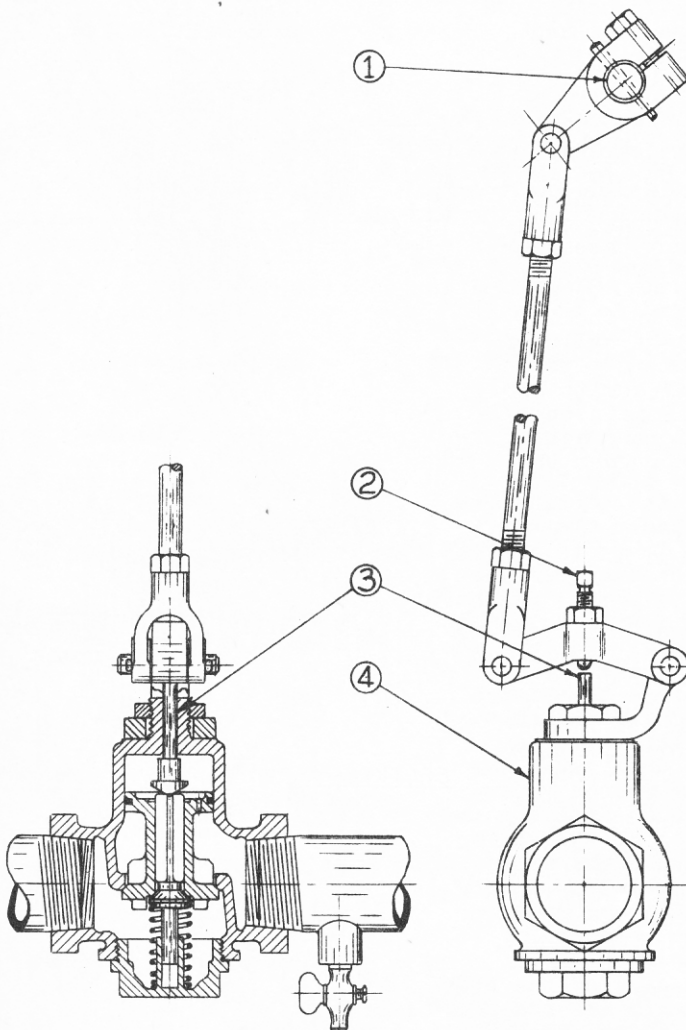

FIG. R-5
The master starting air manifold valve used on the smaller bore engines is illustrated in Fig. R-5. Valve (4) is essentially the same as that used on the 13" bore engines and described in Paragraph 5. It is mechanically operated however, by linkage connecting to the valve rocker shaft (1), this linkage replacing the pneumatic piston construction used on the 13" bore engines. When the rocker shaft shifts to the "START" position, adjusting screw (2) contacts pin (3) and opens the valve. Screw (2) should be set so that the valve is opened about 1/2" when the rocker shaft is in the "START" position.